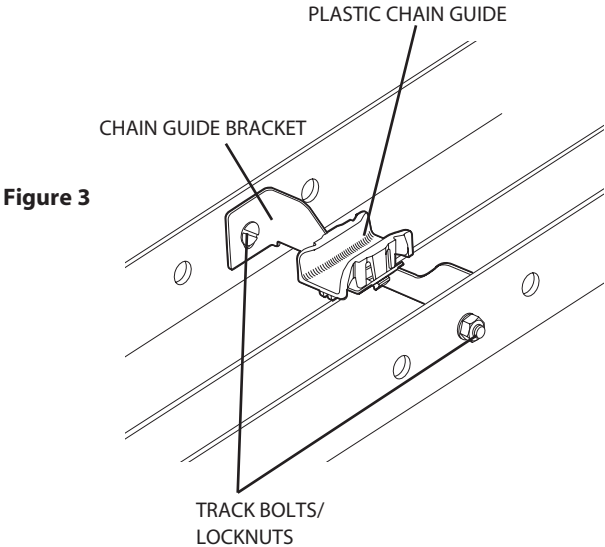

Figure 3
- 2) Attach the chain guide assemblies to the drawbar tracks using track bolts and locknuts (provided). **Fig. 3.**